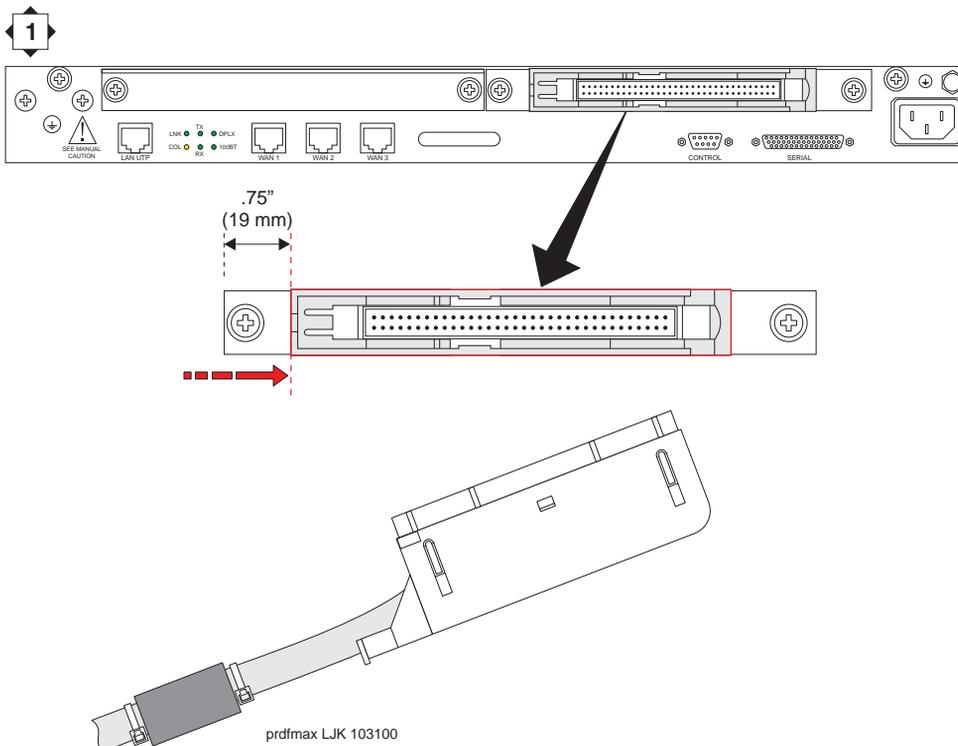

Figure 12. Ejector lock in connector insertion position
1. Slide the ejector on the Combo Blade as far to the right as possible, then gently slide the ejector back to the left. The ejector moves about 1/8" to the left and locks (stops) to reveal connector pins. The ejector is now correctly positioned so you can insert the 68-pin connector. (see Figure 12).